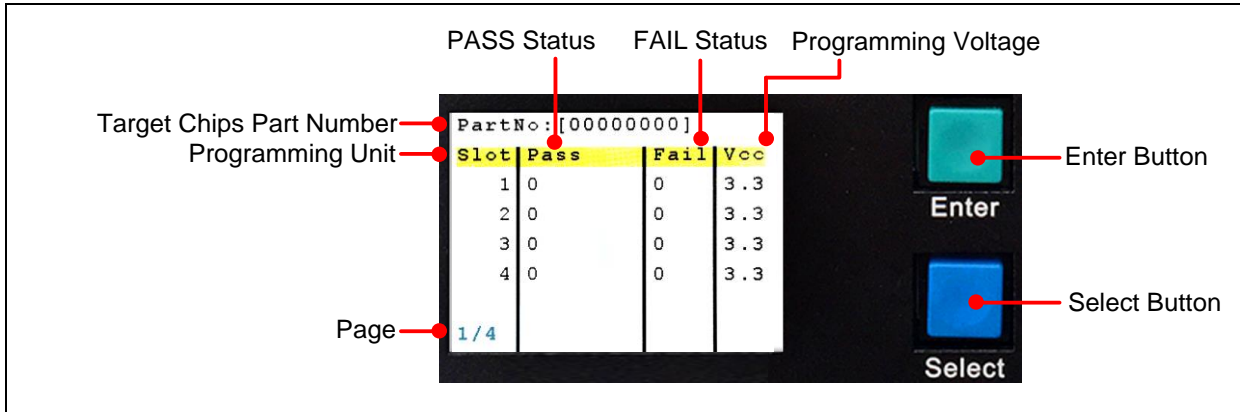

Figure 3-7 Page 1 – Programming Status
- Page 1: Shows all four units programming status includes programming times and programming voltage as Figure 3-7. Press Enter button to go to the next page.